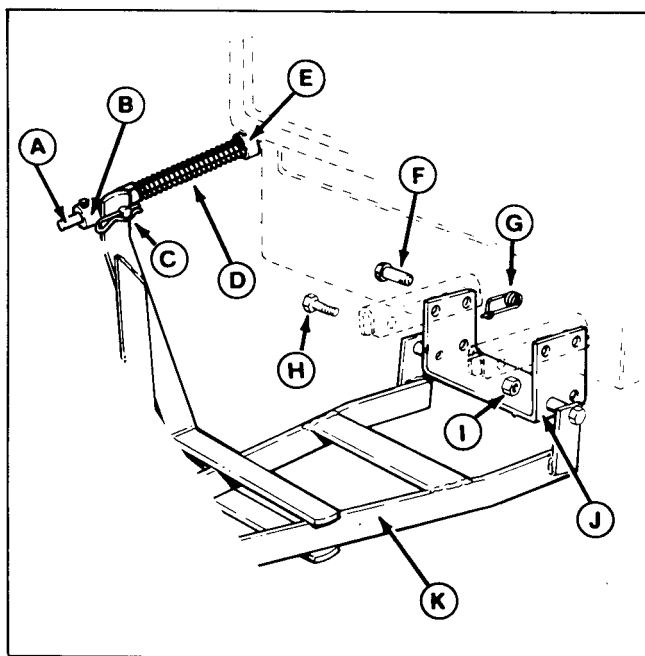

Figure 4. Hitch & Lift Rod
3. Attach the bracket (J, figure 4) to the two rear holes in the tractor hitch with the four pins (F) and safety clips (G) provided. Insert the pins from the outside. Make sure the push bar mounting holes (in the bracket) are toward the front.
4. Attach the push bar to the bracket, using the two 3/8-16 x 2-1/4 capscrews (H) and 3/8 locknuts (I) provided.
5. Remove the bracket (J, figure 4) from the tractor hitch by removing four pins and safety clips.
For initial setting, place front set collar (B, figure 4) one inch from rod guide with blade fully lowered. Place rear set collar (E) against spring (D). Tighten the setscrews in the two set collars. To adjust, perform the following.